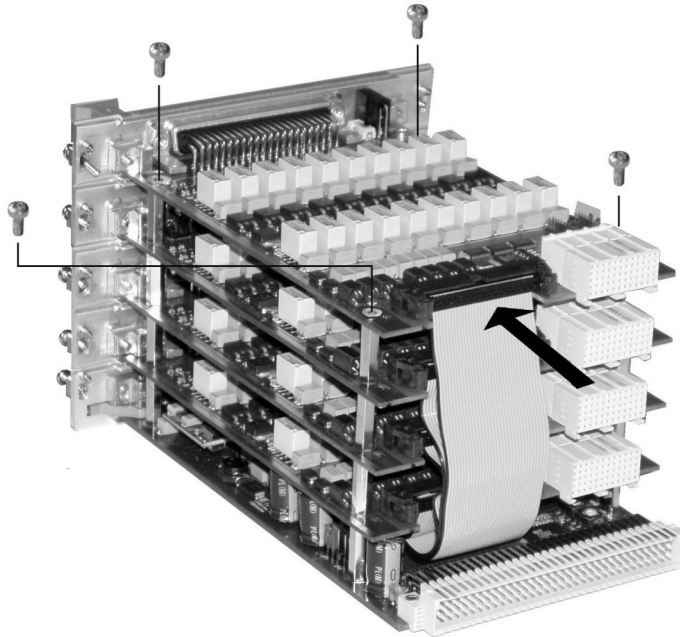

Fig. 4-7 Mounting the Last I/O Module
- Mount the last I/O module as described above – it is tightened, however, with four screws (see Fig. 4-7 on page 23).